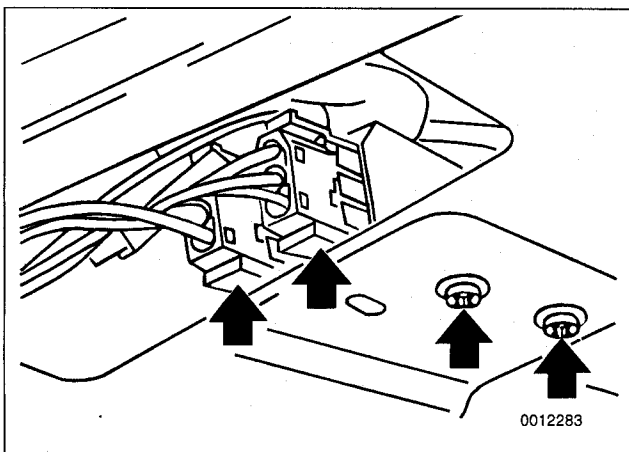

Fig. 18. Luggage compartment actuator wire connectors and attaching screws (arrows).
3. Unplug two wiring connectors from actuator. See Fig. 18.